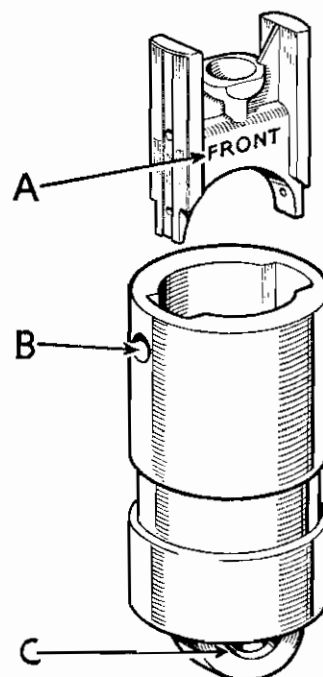

Fig. A-403—Tappet guide and roller
- The guide can only be fitted the correct way due to the bolt locating hole. See Fig. A-403.